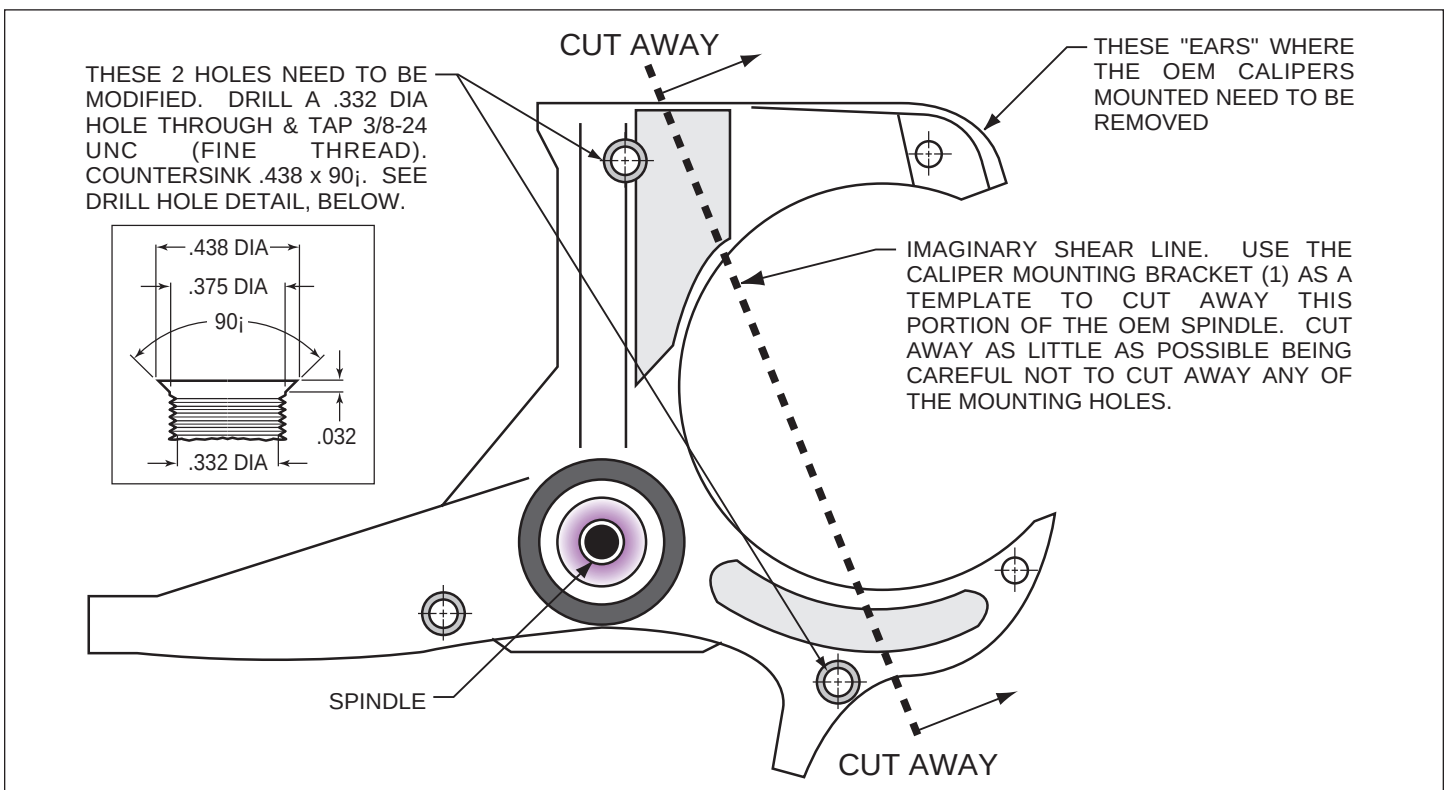
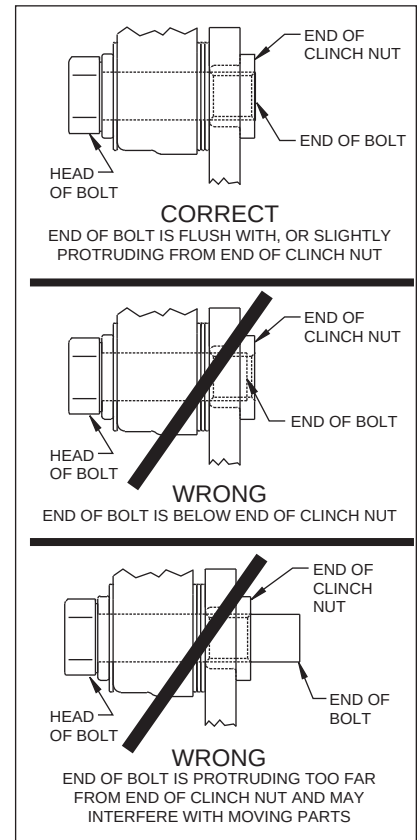

Figure 1. Steering Arm / Spindle Modifications
Figure 5.
These modifications should be performed by a qualified machinist. Refer to Figure 1 as necessary (numbers in parenthesis refer to the parts list on page four). Only one view of the steering arm/spindle is shown, but the modifications need to be performed on both steering arm/spindles.
- Mount the adapter/rotor assembly (8/9) to the hub (5) using bolts (11) (finger tight), as shown in Figure 1. Using an alternating sequence, remove bolts one at a time, apply red *Loctite*® 271 to the threads, and torque to 55 ft-lb.
- Pack the small outer bearing cone (12) with high temperature disc brake bearing grease and install into front of hub (5). Slide the hub/rotor assembly (5 and 9) with outer bearing cone (12) onto the spindle. Secure using stock washer, adjusting nut and nut locking device.
- Install the dust cap (15) onto the hub (5). Friction created by the o-ring (14) on the dust cap (15) keeps it from unscrewing. The O.D. of the existing spindle washer may be larger than the I.D. of the dust cap (15) not allowing it to seat against the hub face. Therefore, use the spindle washer (13) supplied with the kit instead of the stock washer.
- NOTE:** Please reference the caution statement at the beginning of the assembly instructions. Mount the caliper (16) onto the caliper mounting bracket (1) using washers (17), bolts (18) and caliper spacer (19) positioned between caliper (16) and the caliper mounting bracket (1). Finger tighten. View the rotor (9) through the top opening of the caliper (16). The rotor (9) should be aligned in the center of the caliper (16). If not, adjust the caliper (16) by using 0.032 inch thick shims (20) placed between the caliper mounting bracket (1) and the caliper spacer (19). Add as many shim washers (20) as necessary to achieve the correct alignment. Finger tighten and recheck alignment, adjust as necessary. **NOTE:** The end of the bolt must be flush with or slightly protruding from the head of the clinch nut. See Figure 5. Place spare shims (20) between washer and caliper mounting ear to achieve the proper mounting fastener configuration. Always use the same amount of shims on both the top and bottom caliper mounting bolts (18). Apply red *Loctite*® 271 to bolt threads (18) and torque to 40 ft-lb. Caliper mount bolts may be safety wired for additional security.